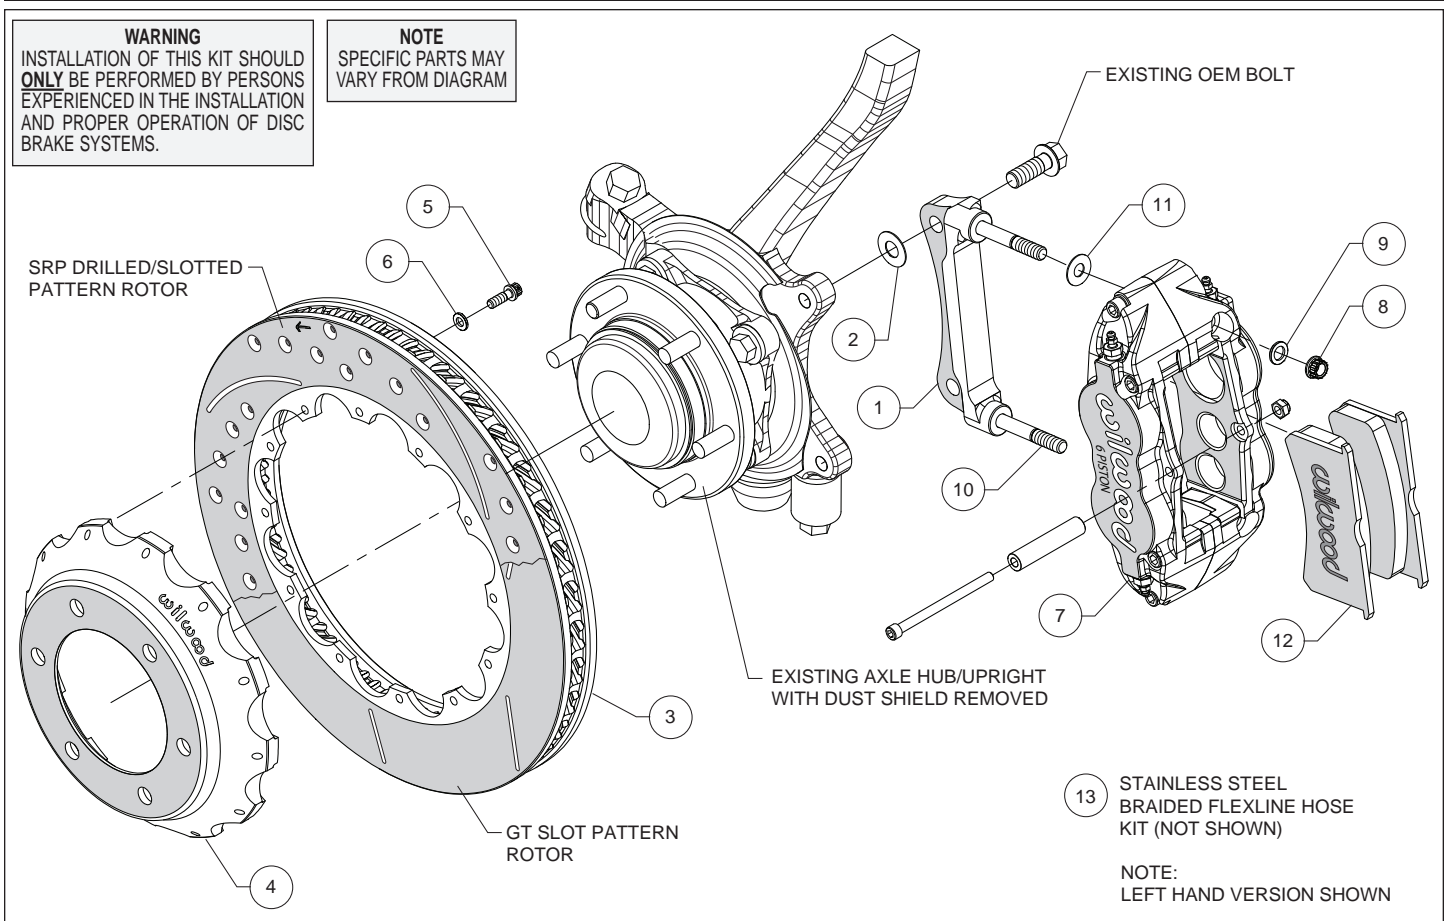
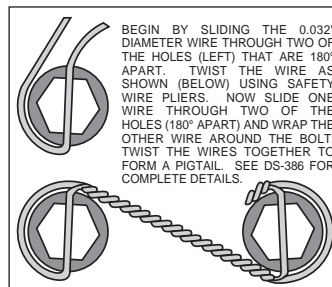

Figure 1. Typical Installation Configuration
Figure 3. Safety Wire Diagram
Assembly Instructions (numbers in parenthesis refer to the parts list and Figure 1 on the preceding pages):
- The caliper mount bracket (1) should initially be installed with clean, dry threads on the mounting bolts. Orient the bracket as shown in Figure 1 and Photo 2 and install using saved OEM mount bolts. Initially place one .033" thick shim (2) on each bolt between the bracket and upright, Figure 1. Temporarily tighten the mounting bolts. **NOTE:** The bracket must fit squarely against the mounting points on the upright. Inspect for interference from casting irregularities, machining ridges, burrs, etc. Later, after the caliper alignment has been checked, the mount bolts will be secured using red *Loctite*[®] 271.
- Orient the rotor (3) and the hat (4) as shown in Figure 1 and Photo 3. Attach rotor to hat using bolts (5) and washers (6). Using an alternating sequence, apply red *Loctite*[®] 271 to the threads, and torque to 155 **in-lbs**. For an added measure of security, the bolts may be safety wired using standard 0.032 inch diameter stainless steel safety wire as shown in Figure 3. Please refer to Wilwood's data sheet DS-386 for complete safety wire installation instructions.
- NOTE:** This kit contains distinct right and left hand calipers that must be mounted in a specific direction, as described below. Lubricate the caliper mounting studs (10) with lightweight oil. Initially place one .035" thick shim (11) on each stud between the caliper and the bracket, as shown in Figure 1 and Photo 6. Mount the caliper (7) onto the bracket (1) using lock nuts (8) and washers (9), Figure 1. Ensure that the caliper is mounted so the largest pistons are at the rotor exit end of the caliper, in relation to the direction of rotor rotation. Temporarily tighten the lock nuts and view the rotor through the top opening of the caliper. The rotor should be centered in the caliper, Photo 7. If not, adjust by adding or subtracting shims (2) between the bracket and the upright. Always use the same amount of shims on each of the two mounting bolts. Once the caliper alignment is correct, remove the bracket mounting bolts one at a time, apply red *Loctite*[®] 271 to the threads, and torque to manufacturer's specifications.